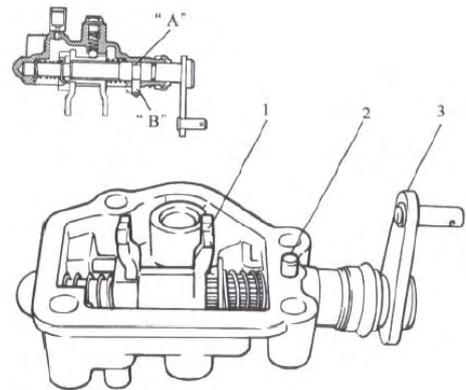

Fig 10-118
(3) Insert gear shift shaft into shift lever case until groove “A” in shift shaft aligns with pin hole “B” in shift lever case. Make sure that gear shift lever and gear shift shaft lever are at the same installation angle. (FIG.10-118).